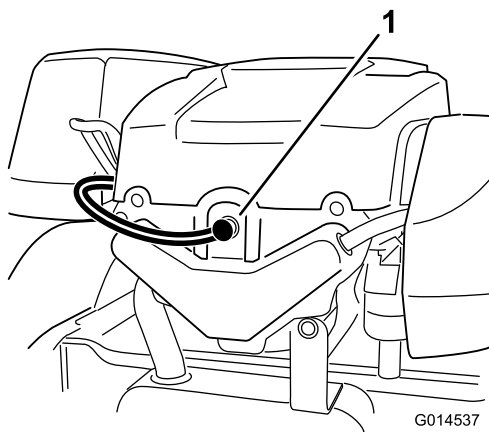

Figure 36
2. Pull the wire off the spark plug (Figure 36).